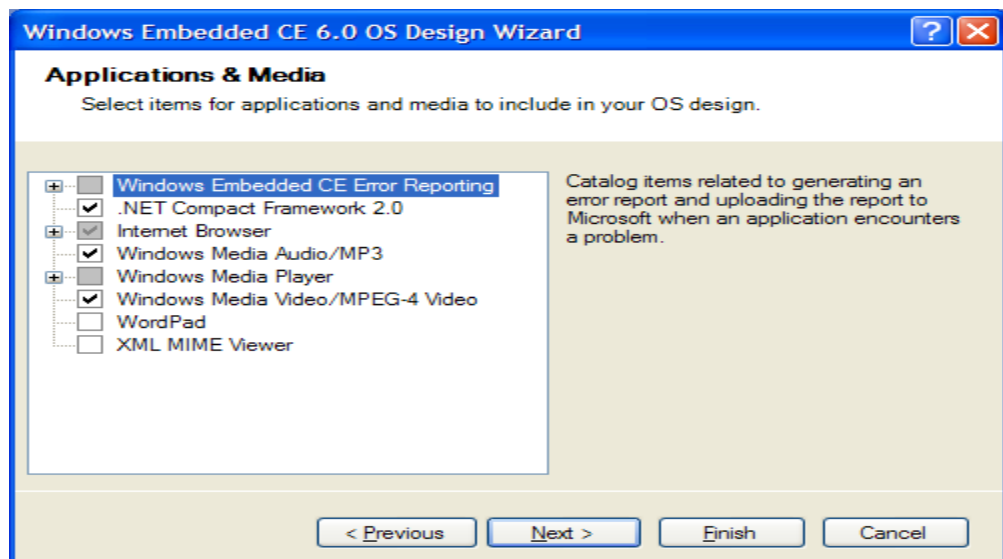

Figure 43. Windows Embedded CE 6.0 Design Wizard
6. In the applications & media selection step, select .NET, Windows Media Audio/MP3, and Windows Media Video/MEPEG-4 Video as shown in figure 43.